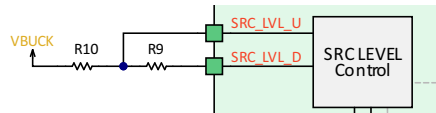

Figure 16: SRC_LVL_U and SRC_LVL_D connections
With the resistive divider shown in Figure 16, the AEM0094x measures $V_{SRC_LVL_U}$ by connecting **SRC_LVL_D** to GND internally. This evaluation is performed every $T_{VSRC_REG_UPDATE}$ (20 s).
- a resistive divider, as shown in Figure 16, calculated as follows: